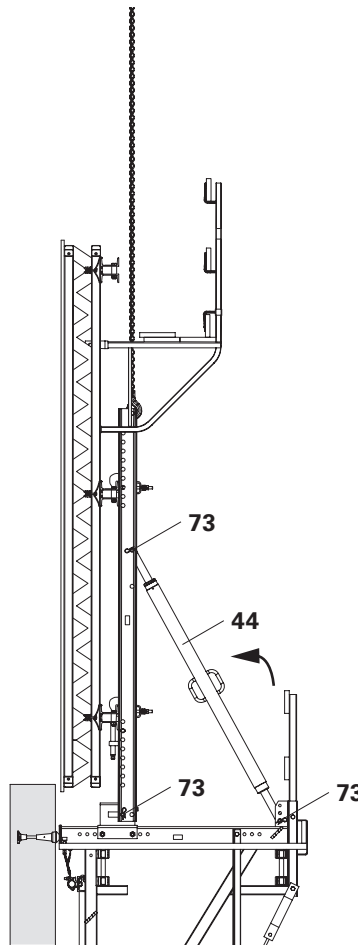

Fig. B2.05c
4. Fix Strongback to the Adjusting Unit CB 160 (16) by means of Bolts  $\varnothing 25 \times 180$  (73) and Cotter Pins 4/1. Standard case: use those holes in the Strongback facing the wall. (Fig. B2.05c)
5. Fix Adjustable Brace CB 164-224 (44) to the bracket using Bolts  $\varnothing 25 \times 180$  (73) and Cotter Pins 4/1. Spindle out to approximate length and attach to Strongback. (Fig. B2.05c)